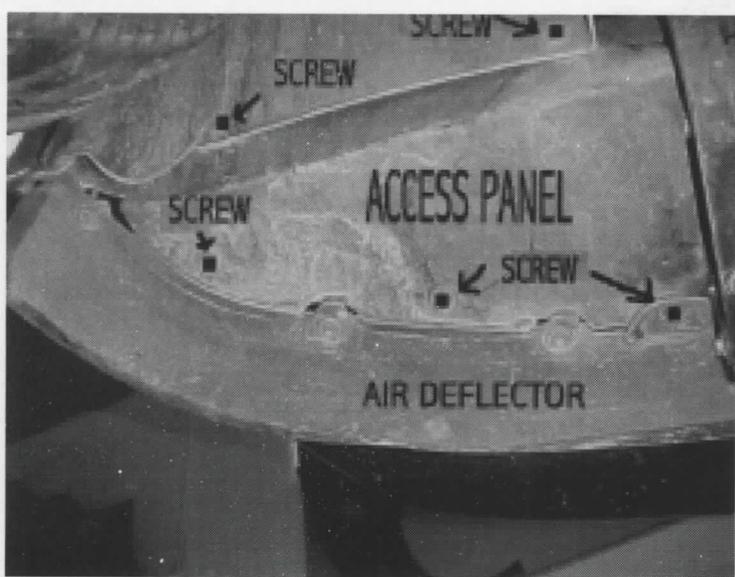
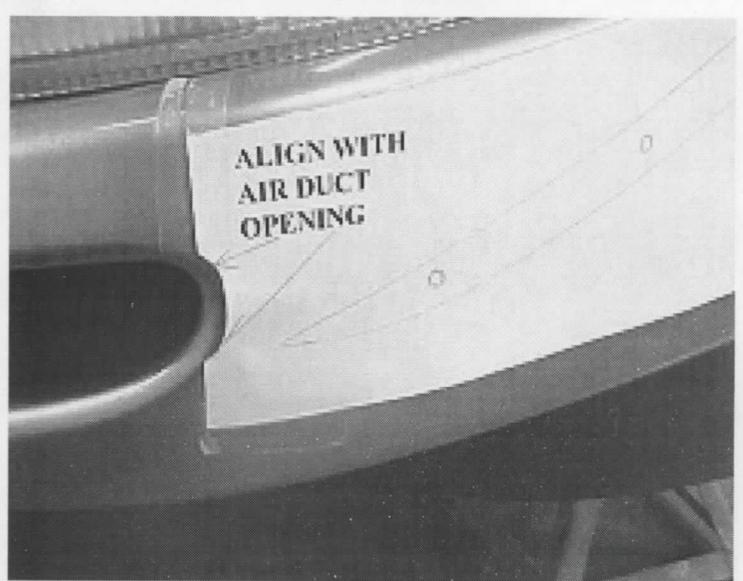

FIG. 1
FIG. 4A
1. REMOVE RIGHT AND LEFT LOWER INNER SKIRT ACCESS PANELS ADJACENT TO AIR DEFLECTOR BY REMOVING FIVE (5) 7mm HEX HEAD SCREWS (SEE FIG. 1)
2. LOCATE TEMPLATES PROVIDED WITH THESE INSTRUCTIONS. CONNECT TWO (2) HALVES OF LEFT TEMPLATE USING TAPE. REPEAT WITH RIGHT TEMPLATE. **NOTE... IT IS IMPORTANT THAT BOTH LEFT AND RIGHT TEMPLATES BE USED DUE TO A SLIGHT DIFFERENCE IN WINGLET STUD LOCATIONS.**
4. ATTACH LEFT AND RIGHT TEMPLATES TO BUMPER, ALIGNING WITH OAK/SIGNAL LAMP OPENING AND AIR DUCT OPENING (SEE FIG. 4A, 4B, & 4C).
5. USING THE TEMPLATE AS A GUIDE, DRILL FIVE (5) 1/8" MOUNTING HOLES ON EACH SIDE OF BUMPER COVER. **NOTE... BE CAREFUL TO PLACE DRILL BIT IN CENTER OF TEMPLATE HOLE BEFORE DRILLING.** ONCE ALL TEN (10) 1/8" HOLES ARE DRILLED, CHANGE TO A 1/4" DRILL BIT AND OPEN ALL TEN (10) MOUNTING HOLES.
9. ONCE PAINT WORK IS COMPLETE, INSTALL WINGLETS BY REACHING INTO BACKSIDE OF FRONT BUMPER COVER AND PLACING CORRESPONDING LEFT AND RIGHT RETAINERS OVER STUDS AND SECURE USING THE TEN (10) 7mm NUTS PROVIDED.